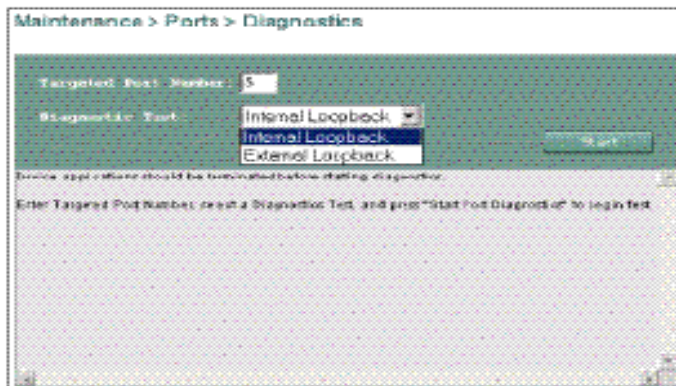

Figure 4-4 Diagnostics View
1. Select *Diagnostics* from the *Maintenance* menu (*Maintenance*>*Ports*>*Diagnostics*). The *Diagnostics View* appears (Figure 4-4).
3. Select *Ports* and *Diagnostics* from the *Maintenance* menu (*Maintenance*>*Diagnostics*). The *Diagnostics View* appears (Figure 4-4).